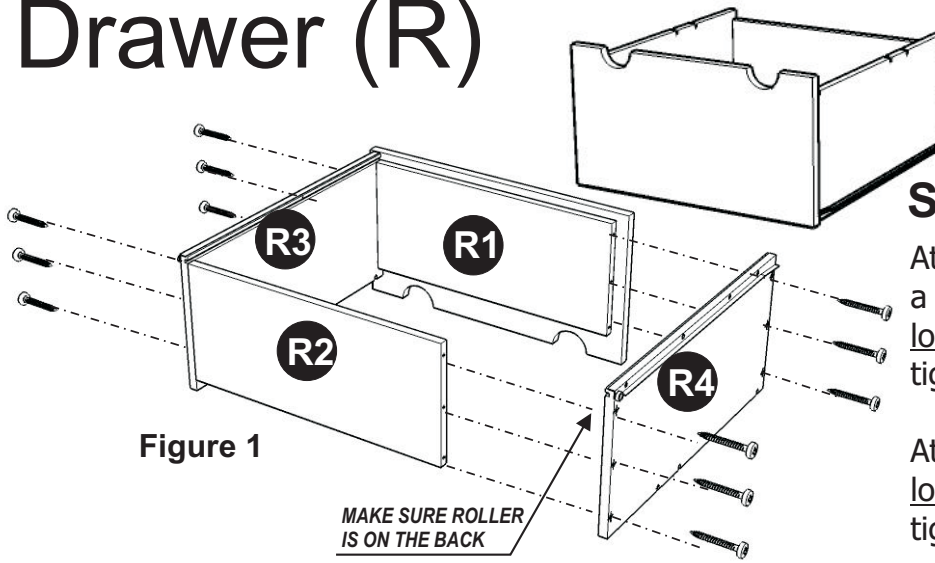

Figure 1
Attach Stretchers (D) and (E) onto Side Panel (B) with Cam Locks (see Figure 1).
Attach Q2 to Q3 and Q4 using long wood screws (4X), tighten halfway. (see Figure 1)
Attach R2 to R3 and R4 using long wood screws (6X), tighten halfway. (see Figure 1)